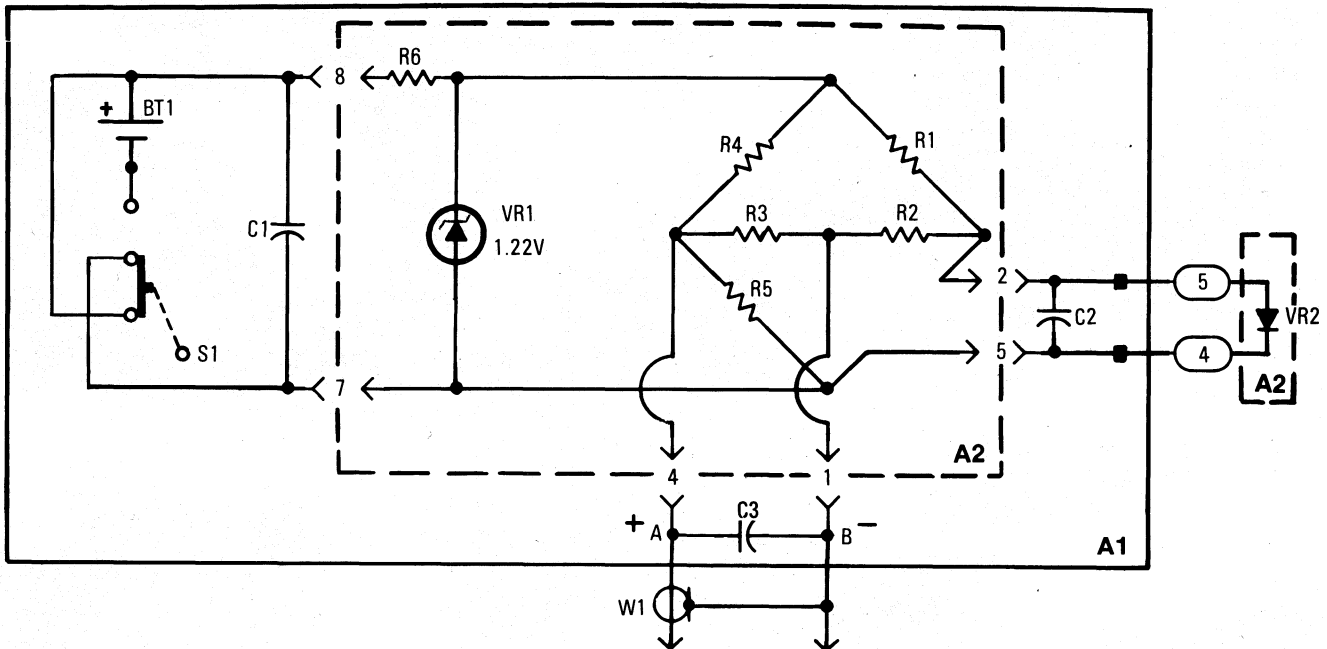

Figure 2. Constant Voltage Source - Probe Tip
10. The voltage reference (VR1) forms a constant voltage source (see figure 2). All resistors shown in figure 2 are part of the alumina substrate microcircuit with values trimmed by laser operation at the factory. Therefore, there are no calibration adjustments to be made. Resistor R4 controls the zero point of the sensing diode and resistor R3 controls the slope. Capacitors C1, C2, and C3 protect VR1 and VR2 against static charges.